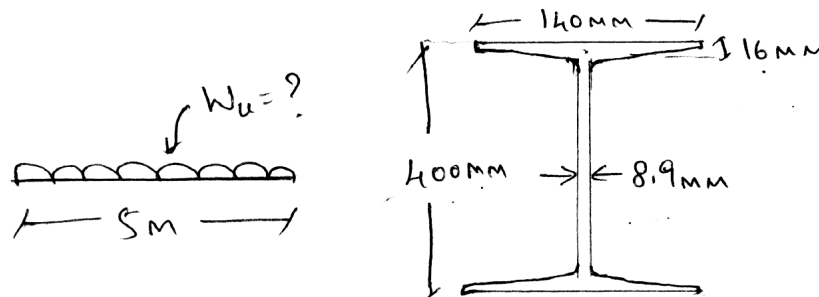

Fig. 10 (c).
- iv) Maximum deflection of simply supported beam as shown in Fig. 10(c).